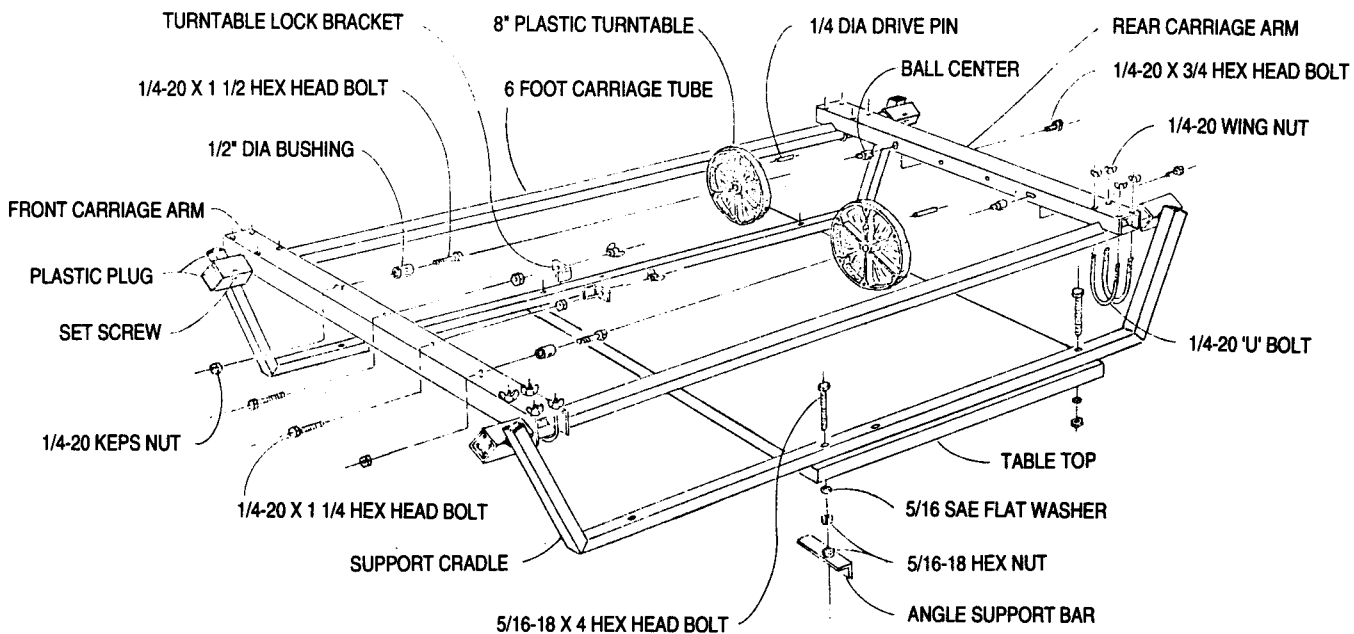

FIGURE 1
6. Attach one of the carriage arms near the ends of the carriage tubes. Be sure the slotted holes of the carriage arm are oriented per Figure 1. Secure with four 1/4-20 U-bolts and wing nuts, finger tight.